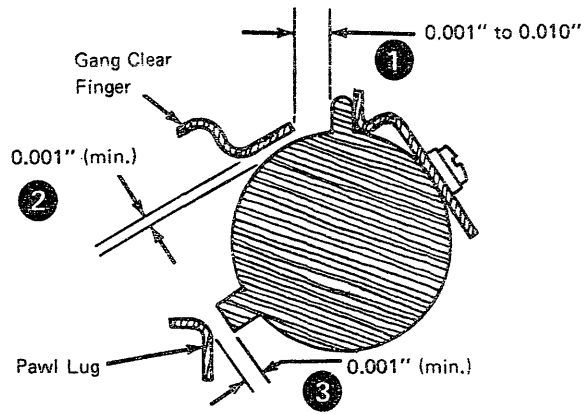

Figure 3-280. Gang Clear Finger (Spring-Detented Tabs)
4. Check for a minimum clearance of 0.001" (see No. 3, Figure 3-280) between the lugs on the rear of the escapement and backspace pawls and any set tab, when the tab rack is rotated to clear position and the pawls are removed from the rack, as in a carrier-return operation. If this clearance is not present, recheck the tab-rack-position and pawl-clearance adjustments.